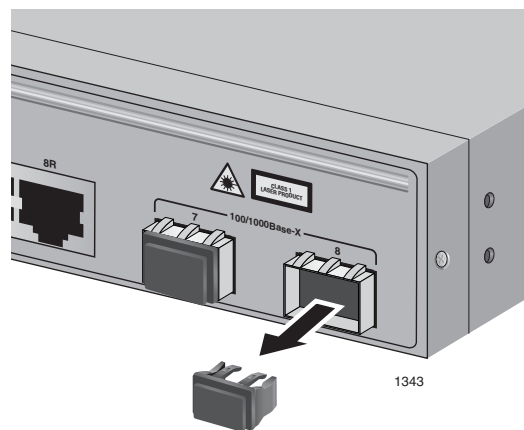

Figure 14. Removing a Dust Plug from an SFP Slot
1. Remove the dust plug from a transceiver slot on the switch, as shown in Figure 14.